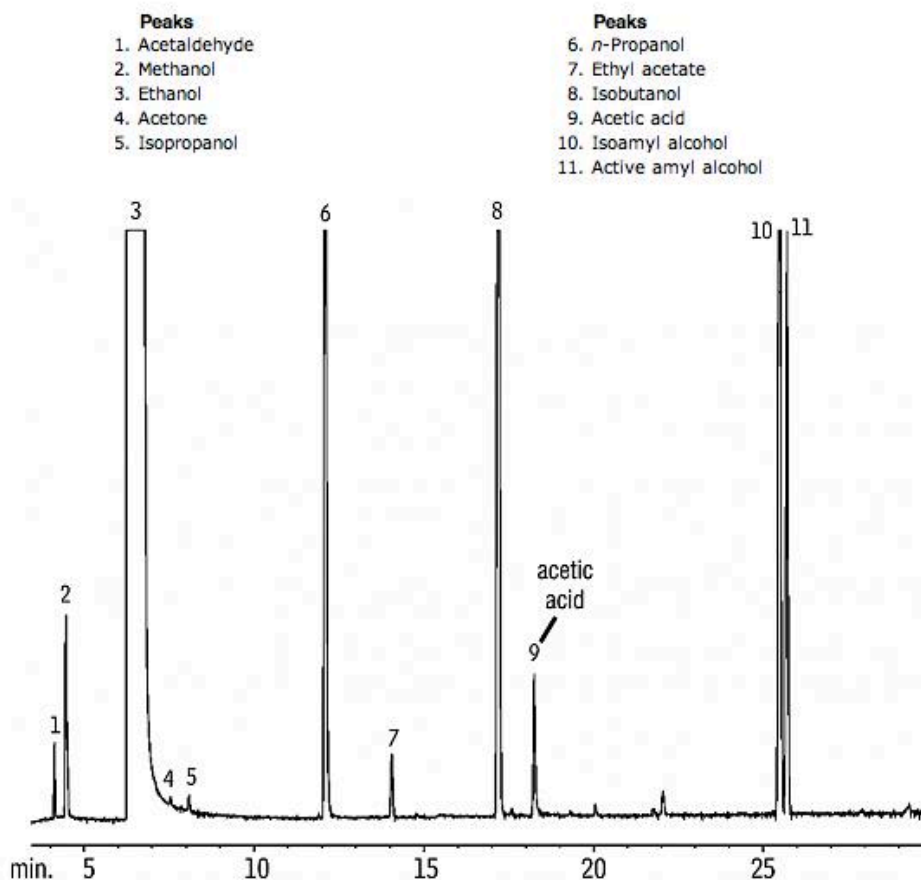

Figure 2: Sample Chromatogram (Scotch)
11. The sample chromatogram displayed next to the instrument (and below in Figure 2) is a chromatogram of a scotch sample provided by the *column* manufacturer. The separation conditions used to collect this chromatogram are different from ours, so the retention times will not be the same. However, the *elution order* will be the same as our separation. The